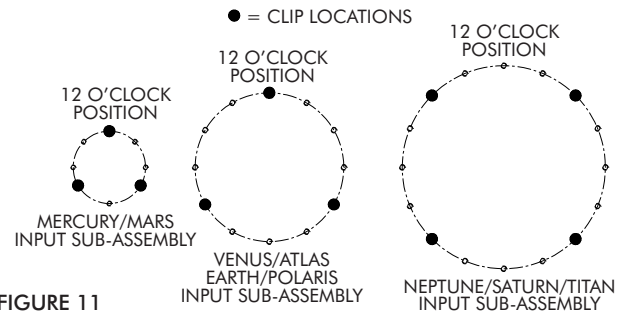

FIGURE 11
- a. Remove mounting bolts from input sub-assembly/maincase in the following locations and install shroud clips; reference Figure 11.